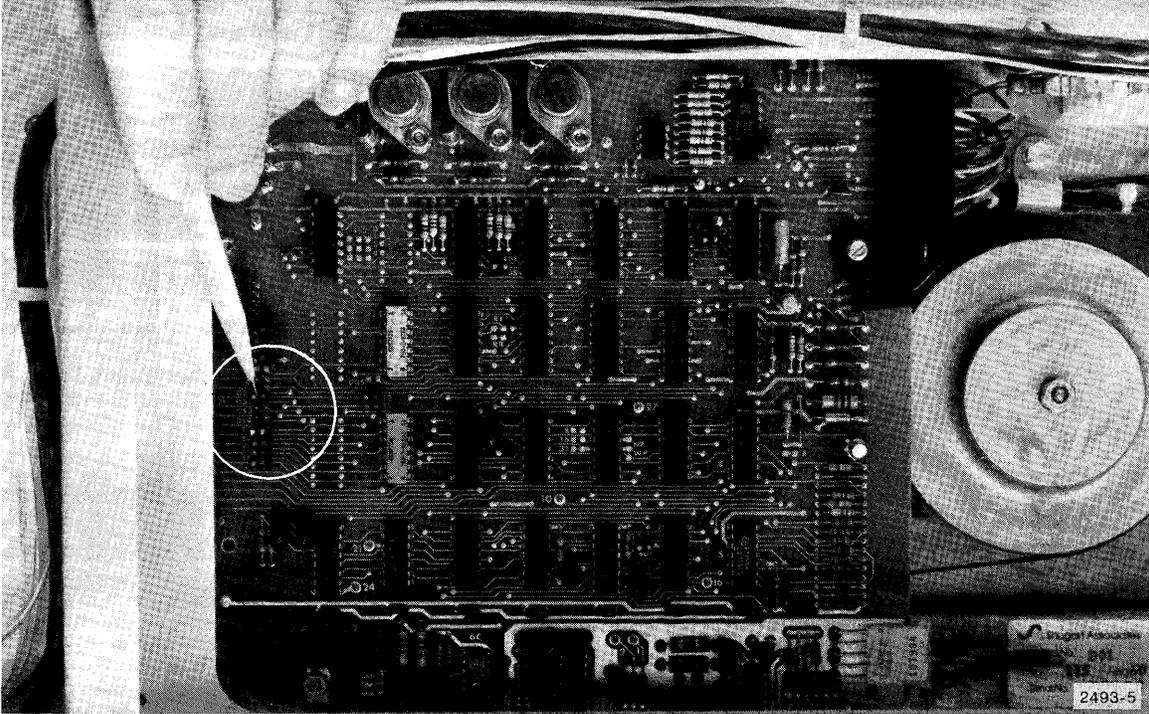
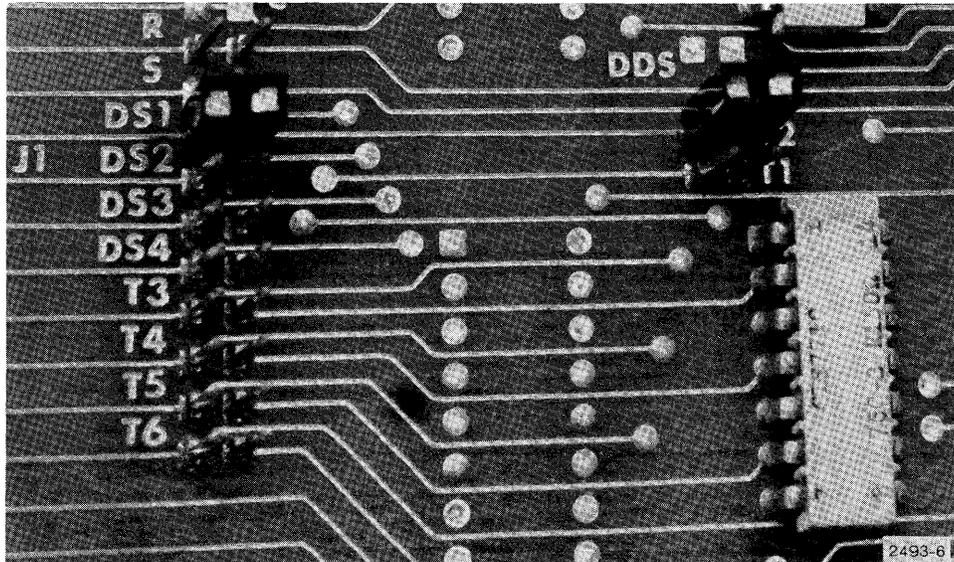

Figure 3-2. Location of drive address straps.
Figure 3-3. Setting for device address 0 (DS1).
4. Locate factory-set address strapping (Figure 3-2) and change strap to the desired address. See Figures 3-3, 3-4, 3-5 and 3-6.